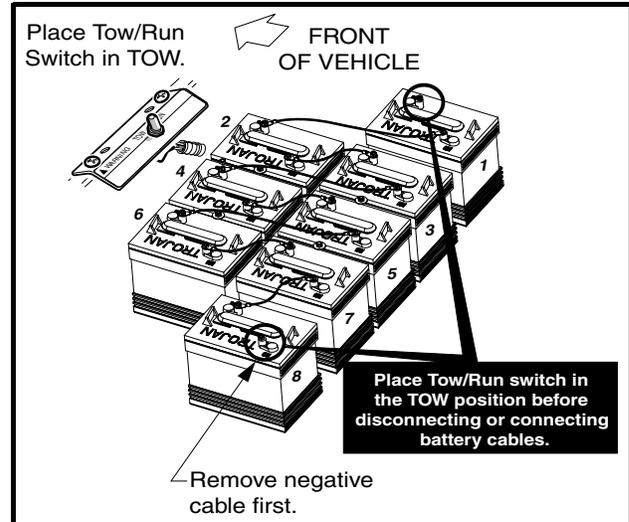

Figure 2 IQ Plus Electric Vehicle
- To avoid unintentionally starting the vehicle, disconnect the batteries as shown (Figure 2, Page 13).